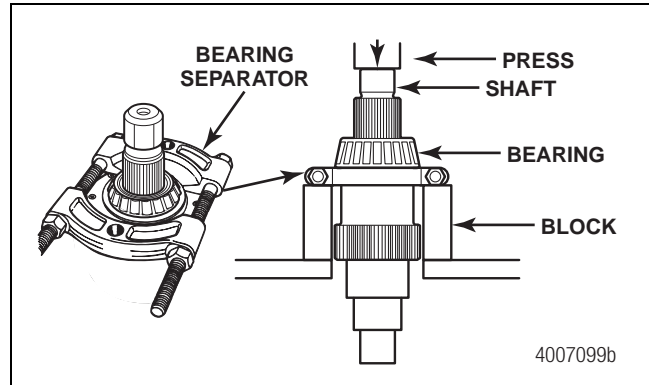

Figure 4.22
6. Install a bearing separator or other suitable tool below the forward roller bearing. Figure 4.22.
7. Install the output shaft assembly into a press and support it correctly. Figure 4.22.